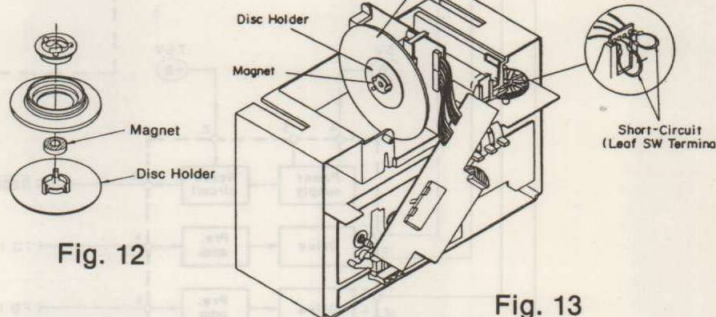

Fig. 12
6. Remove the disc holder and magnet (see Ref No. 18, 19 of the disassembly instructions). (See Fig. 12)